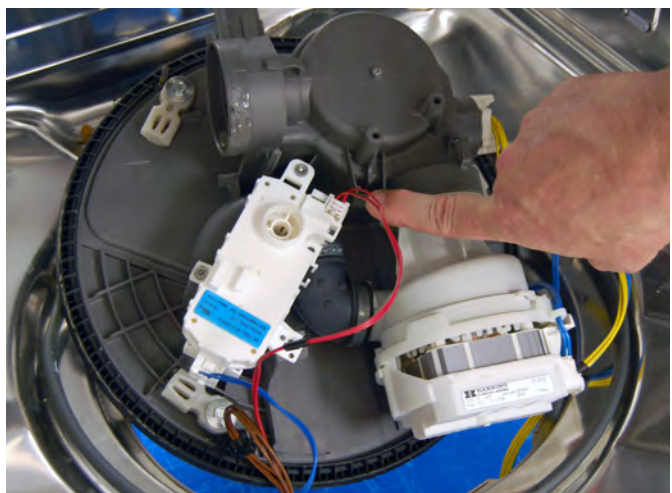

Figure 15
10. Unplug the diverter position switch harness, see figure 15.